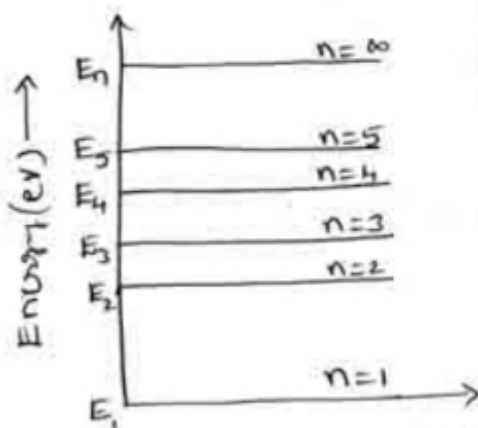

Fig. 1: Energy level diagram
- The diagram in which we plot the energies corresponding to K, L, M, ... etc shells is known as Energy level diagram (Fig. 1)